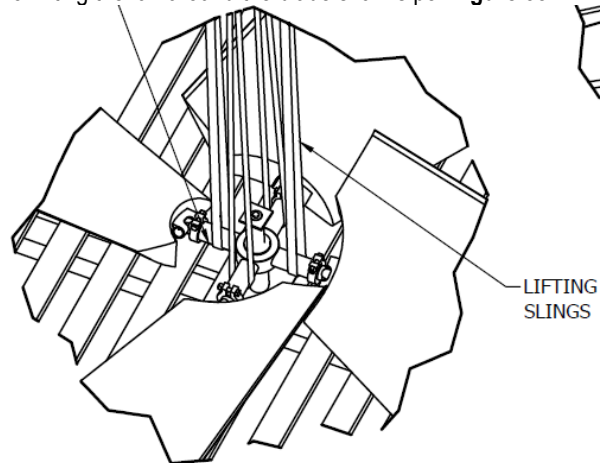

Figure 38: Attaching slings
2. Wrap or loop slings suitable for lifting the fan around the blade shanks per **Figure 38**.